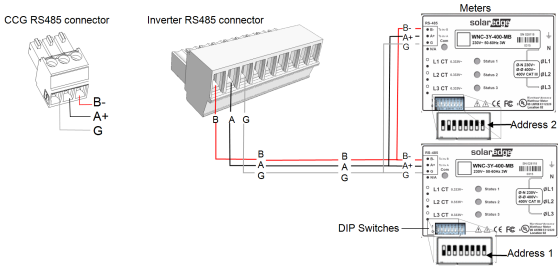

Figure 20: Connecting the meters to the inverter or Commercial Gateway RS485 connector
1. Connect the twisted pair wiring to the meters as shown in *Figure 20*.